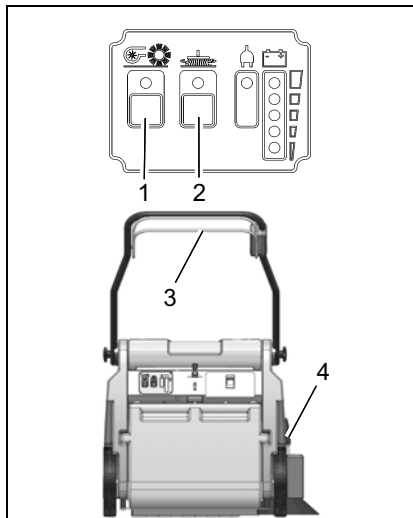

Fig.3
Please read the Safety Information in Chapter 1. Before switching the machine on, ensure that the drive bar (Fig. 3/3) on the handle has not been actuated.
1. Switch the machine on using the (Fig. 3/1) button: rotary brush drive, dust vacuum and side brush drive are ready to operate.
2. Lower the side brush to its working position using the lever (Fig. 3/4). When working without the side brush: do not lower the side brush and press the button (Fig. 3/2) for the side brush once. The green control lamp goes out.
3. Actuate the drive bar (Fig. 3/3) on the handle: the machine starts to work.